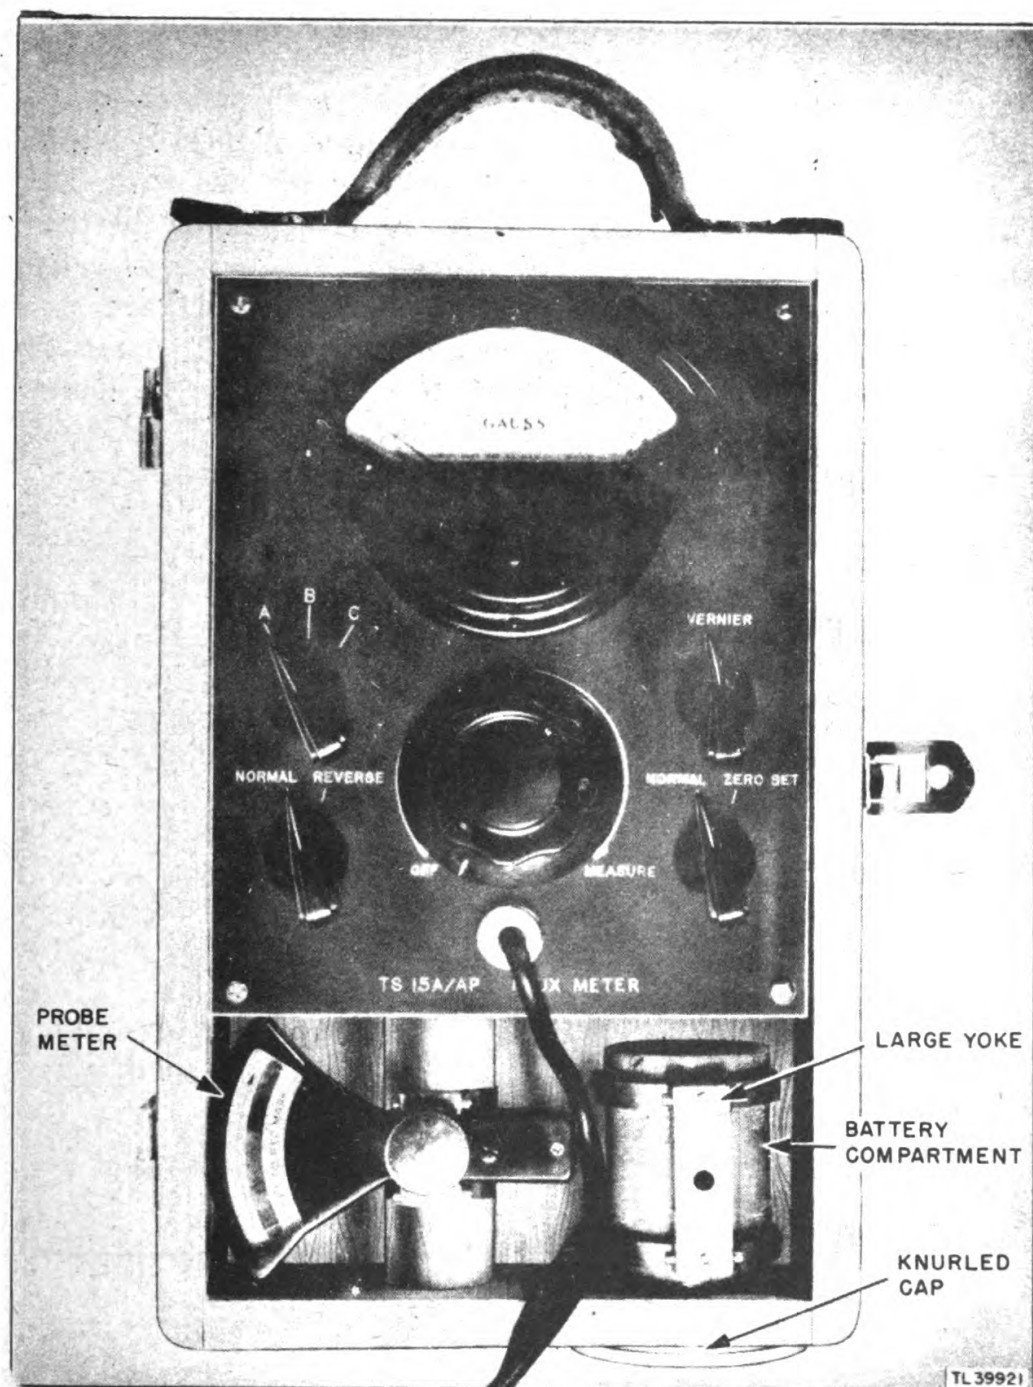

Figure 2. Fluxmeter TS-15A/AP, front view.
5. FLUXMETER TS-15A/AP (fig. 2).